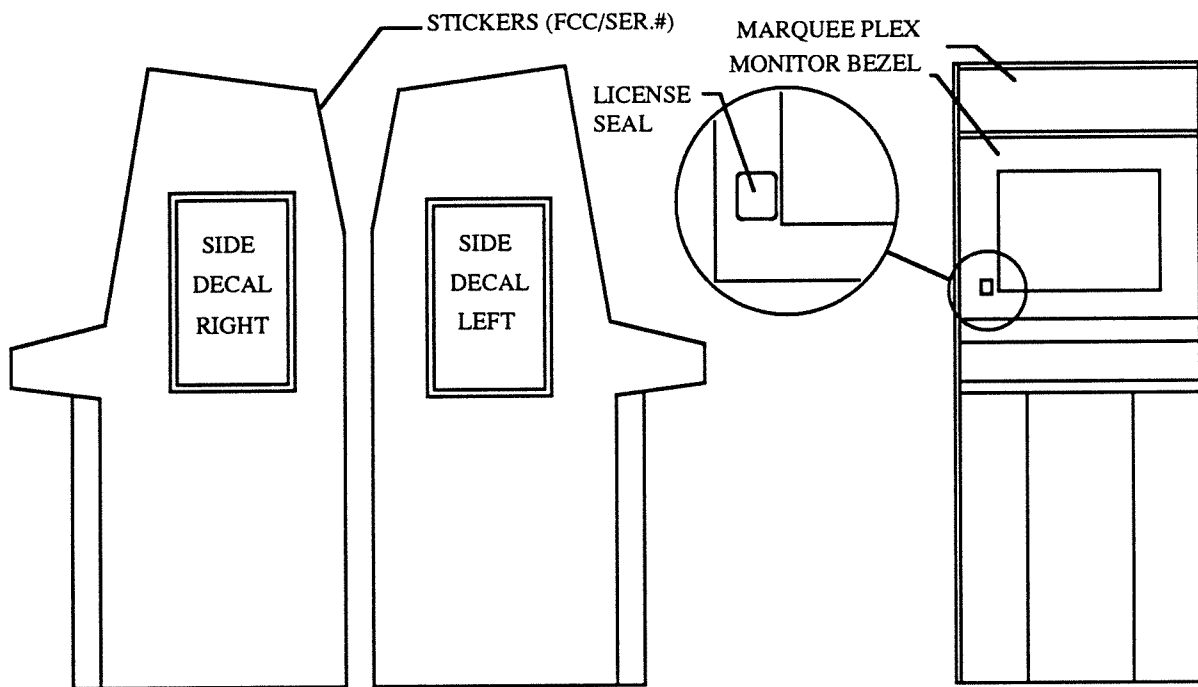

Figure 1
36. Locate the Kit SERIAL NUMBER STICKER and FCC STICKER. Install these stickers on the rear of the game cabinet. (see figure 1)